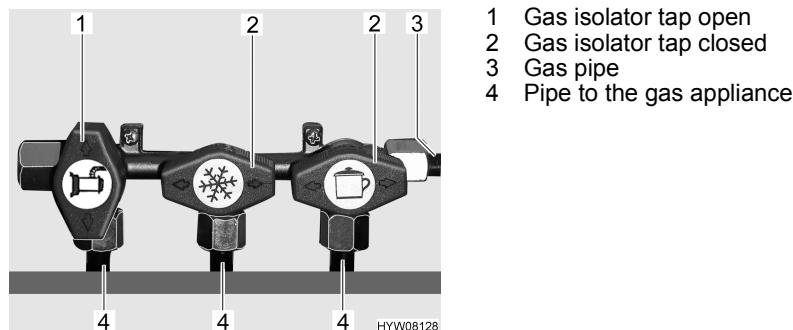

Fig. 40 Gas isolator taps position
- Position the gas isolator tap of the corresponding appliance parallel (Fig. 40,1) to the pipe (Fig. 40,4) leading to the gas appliance.
- Position the gas isolator tap of the corresponding appliance transverse (Fig. 40,2) to the pipe (Fig. 40,4) leading to the gas appliance.